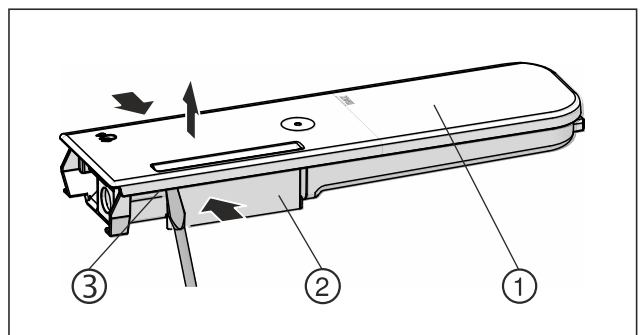

Fig. 135
- ▶ Push the water tanks Fig. 135 (2) together, leverage the cover Fig. 135 (1) carefully over the latching tabs Fig. 135 (3) and lift it up.
- ▶ Move the cover Fig. 135 (1) slightly forwards and back, and remove to the top.